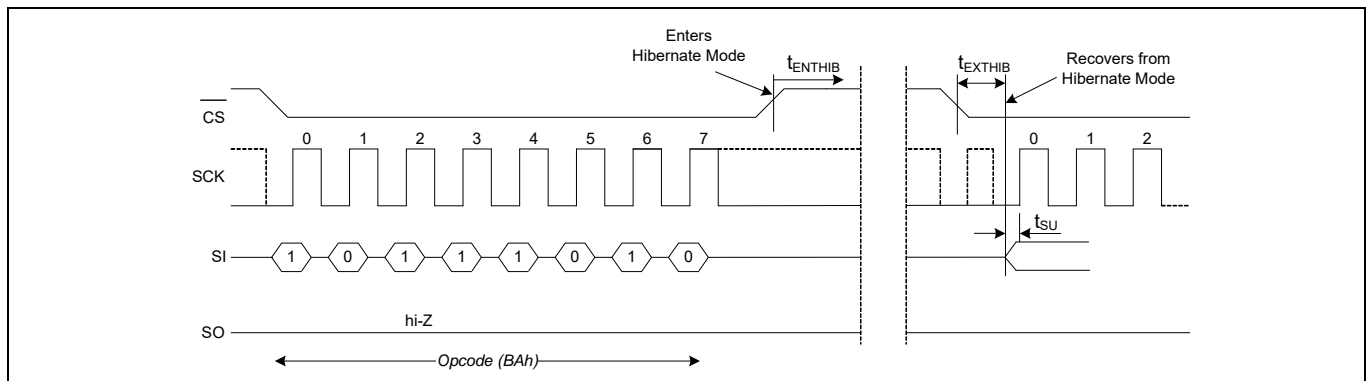

Figure 103 Hibernate mode operation in SPI mode
- The timing details shown in the SPI mode timing diagram (Figure 103) are applicable as is in the DPI and QPI modes.